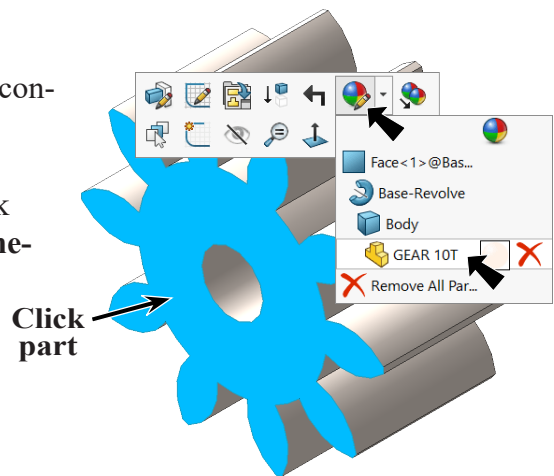

Fig. 9
Step 1. Click part, click **Appearance Callout**  on the context toolbar and click **GEAR 10T** , Fig. 9.